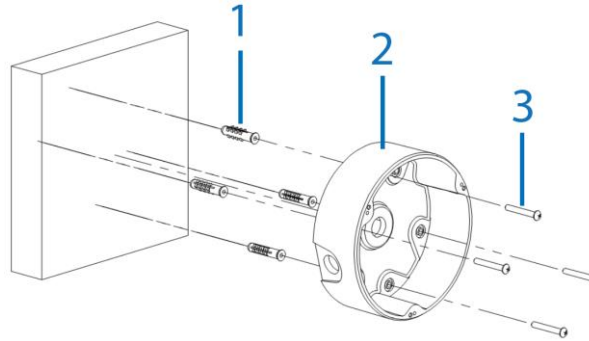

Figure 3
- Use a hammer to insert the four screw anchors (1) (Figure 3) into the four holes.
- Hold the junction box (2) (Figure 3) up to the surface and align the four holes on the junction box with the four holes on the surface.
- Insert the four TP4 25mm tapping screws (3) (Figure 3) into the four holes and securely attach the junction box to the surface.